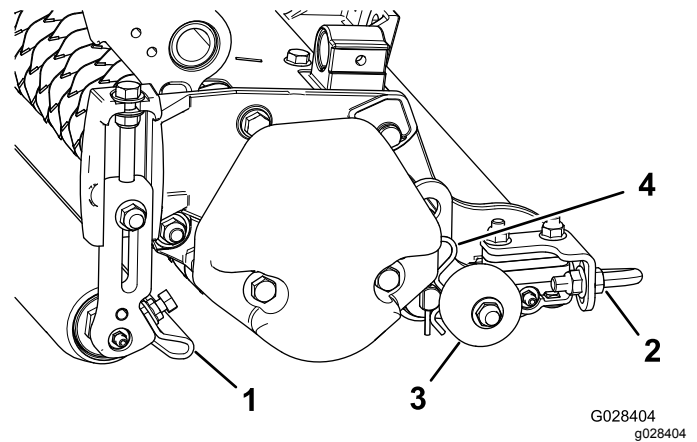

Figure 11
1. Loosen the flange nuts that secure the roller scrapers (Figure 11).
Before the verticutters are lowered to the shop floor or removed from the traction unit, lower the transport rollers (Figure 11) to protect the blades from hard surface contact.